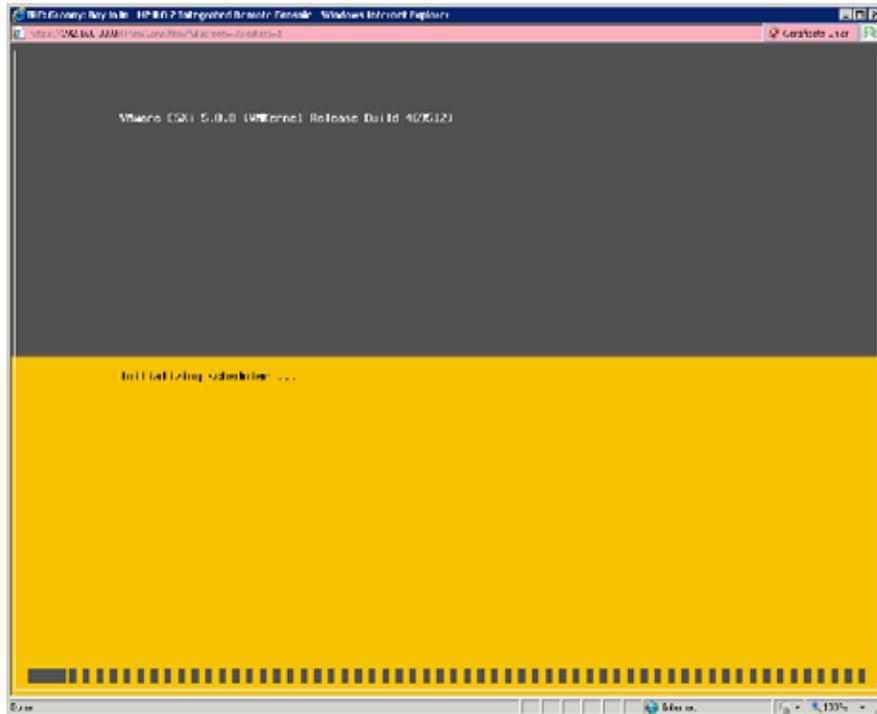

Figure 4 Boot Up
- Step 2 After the OS files have been loaded, the server boots to the ESXi 5.0 native operating system. See Figure 4 on page 34.